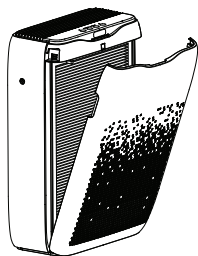

Fig 1
1. Pull the front cover from the top to remove front cover (Fig 1).